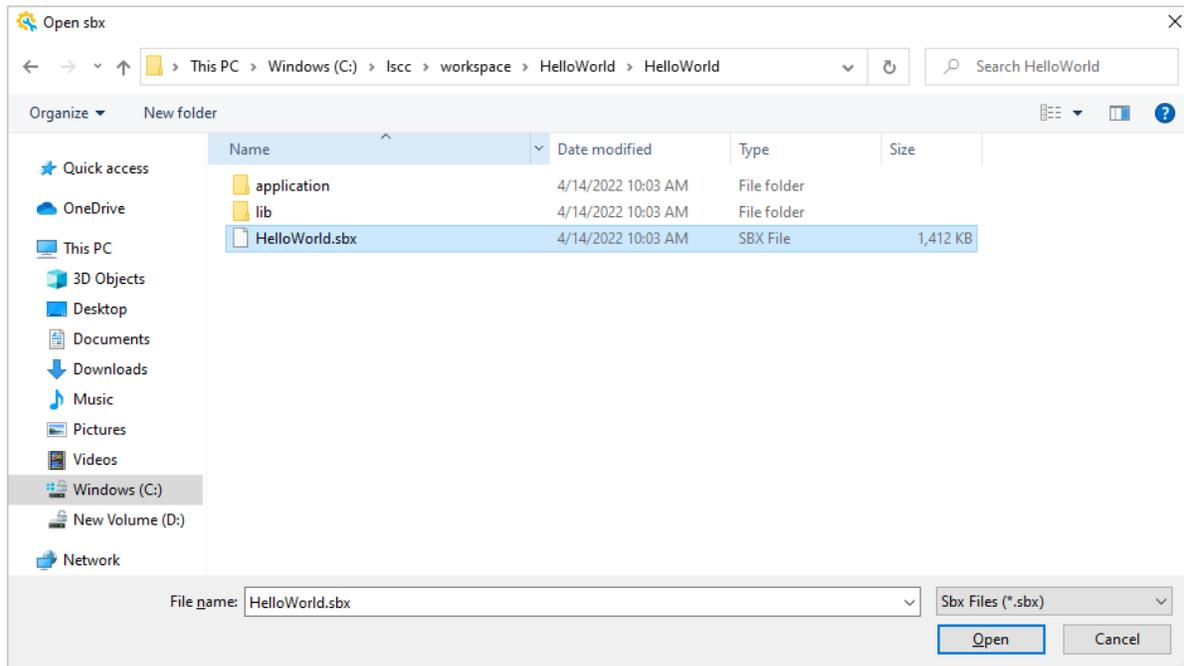

Figure 2.10. Open HelloWorld Project
- Browse to find the default project workspace folder or your own project workspace folder. Choose the sbx file, such as HelloWorld.sbx (Figure 2.10).